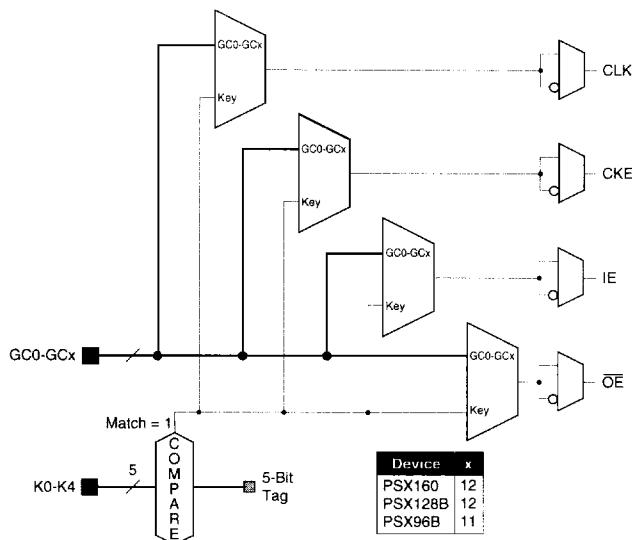

Figure 9: I/O Control
The PSX family has a flexible control structure that gives the user complete control over the behavior of each I/O Port. As shown in Figure 9 and described below, clock (CLK), clock enable (CKE), input enable (IE) and output enable (\overline{OE}) for each I/O Port can be selected from two different sets of control inputs. The control polarity can be individually selected.